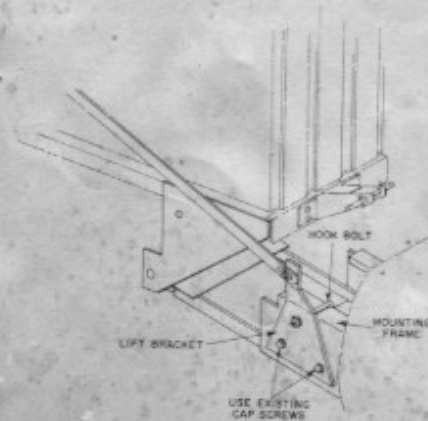

Figure 3: Lift Bracket Installation
4. Attach lift bracket to the right side of the snow thrower mounting frame so its pin extends to the right. Remove and reuse existing cap screws to attach the lower edge of the bracket to the frame. Install hook bolt in the lift bracket upper hole so its hooked end engages the lip of the mounting frame. Secure with plain washer, lock washer and nut. See Figure 3.